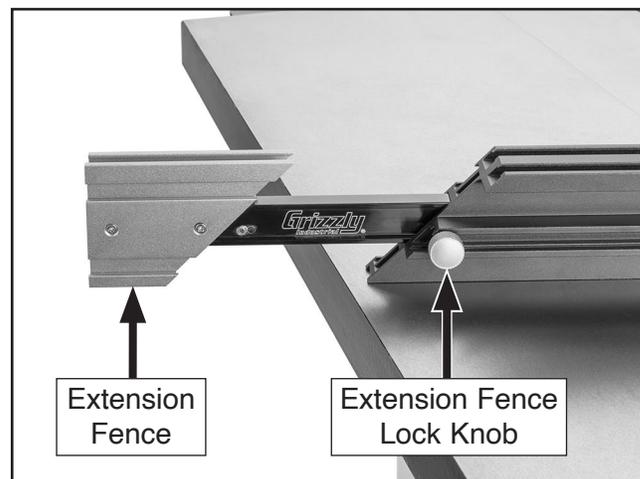

Figure 11. Extension fence components.
- Remove lock knob shown in **Figure 11** and slide extension fence out of main fence.